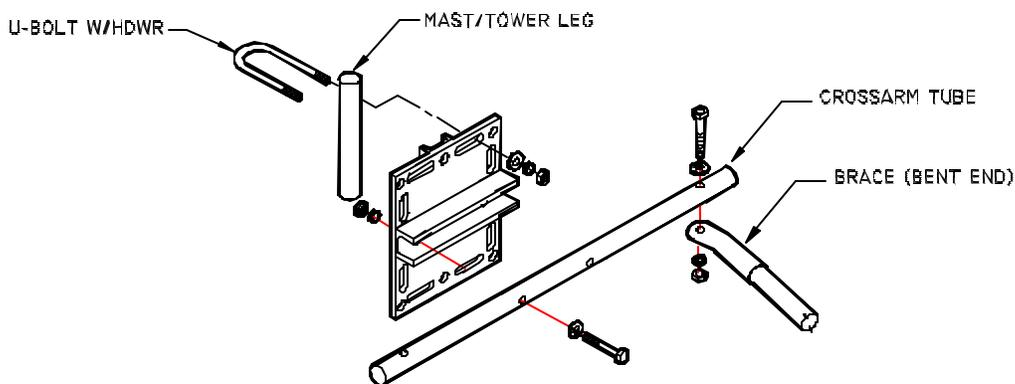

Figure 4
- b. Connect the antenna at the end mount boom extension to the antenna support bracket using the provided bolts. See Figure 4.